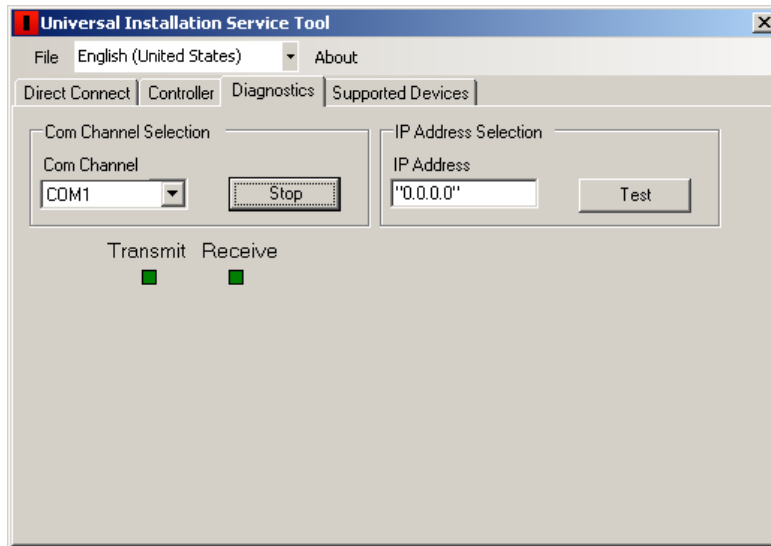

Figure 3.6 – Com Channel Diagnostics Test
Selecting the “Test” button in the “Com Channel Selection” will start the test. This test is to insure that the device is sending and receiving data packets. If the port is working correctly two (2) lights on the tab will be displayed as shown in Figure 3.6. A failure will only display one (1) light. The “Stop” button will end the test.